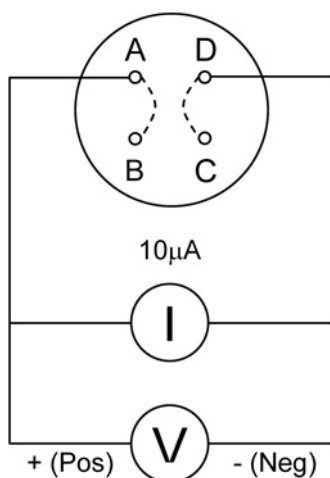

Figure 18 Check the Standard Silicon Diode
1. Connect the positive side of a 10-microamp DC current source to pin A of the diode connector. Connect the negative side to pin D. See Figure 18.